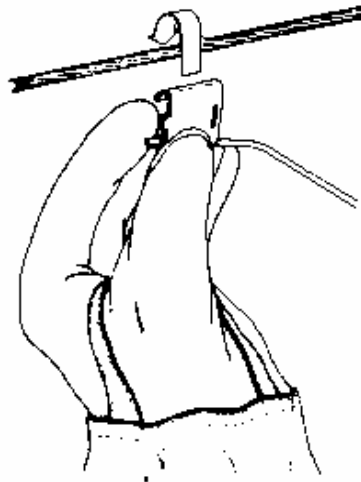

Figure 2
- a) Place the service entrance conductor in the lower channel of the "C" component . See Figure 2 .